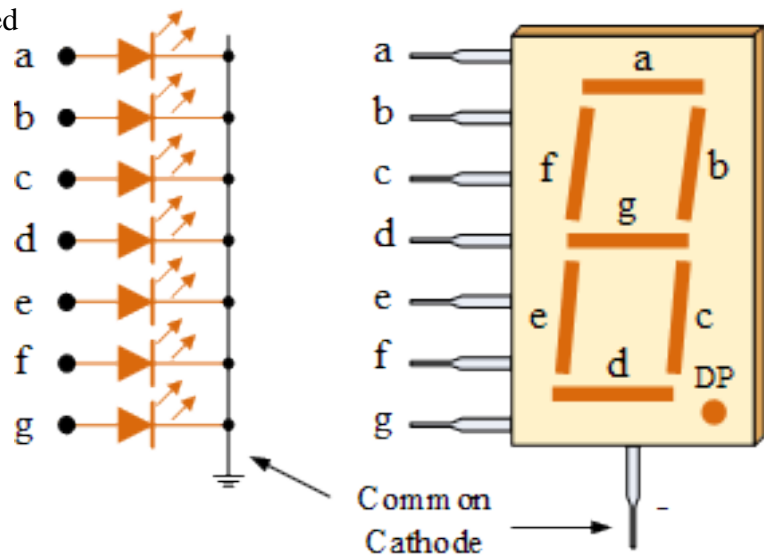

Fig. 5.1 7-Segment Display
7-segment display consists of seven LEDs arranged in a rectangular fashion. Each LED is called a segment. The segments form part of a numerical digit (both Decimal and Hex) to be displayed (refer to Figure 5.1). An additional 8th LED is sometimes used within the same package thus allowing the indication of a decimal point, (DP) when two or more 7-segment displays are connected together to display numbers greater than ten.